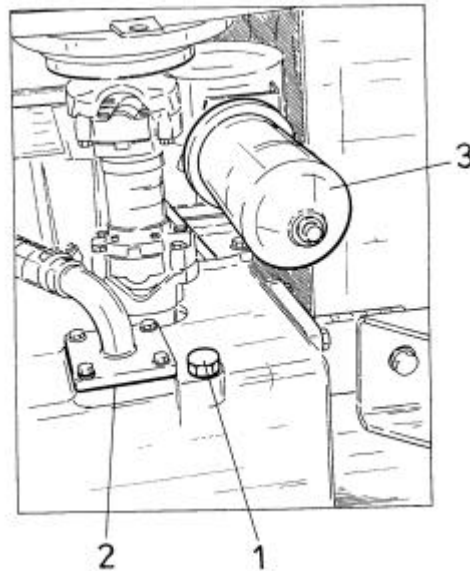

Fig. 5.43. Drain Plug and Transmission Filters (View From Underneath)
3. Remove drain plug (1, Fig. 5.43) from the transmission while the oil is still warm.
Pressure filter (3, Fig. 5.43) is located at the back on the RH side of the transmission.
The location of the suction strainer is shown in Fig. 5.43.